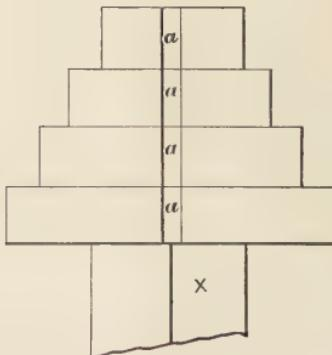
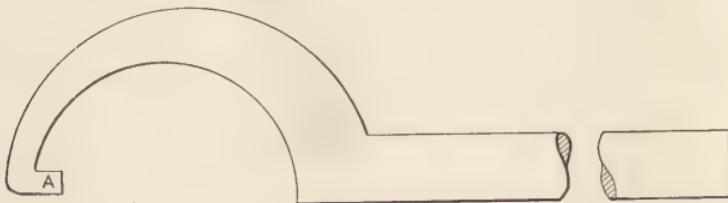

Fig. 28.
Fig. 35
wrench to the required size and shape. This may be most conveniently done by having a wrench block as shown in Fig. 27, which can be made either of cast iron or steel and arranged to fit in the square hole in the anvil or in a large swage block. By having several steps or shoulders the wrench block will answer for all sizes of wrenches used in the average shop. The one in Fig. 27 is in five different sizes, from *A* to *E*, and is one of the handiest tools to be found in a smith shop. The square shank designed to fit the hole in the anvil is at *X* in Fig. 27. In Fig. 28 is a wrench block for a spanner wrench, which will be described shortly.
**Spanner Wrench.**—Fig. 35 shows a spanner wrench, a tool that blacksmiths are sometimes called upon to make in different sizes. It must be made the proper shape to give satisfaction to the user. In some cases the part marked *A*, Fig. 35, is required to be round, and in others oblong. A block for bending this kind of a wrench was shown in Fig. 28. This form or block (same as in Fig. 27) can be set in the anvil or swage block by having a square shank *X*. Have a row of keyways cut along one side at *a*, *a*, etc., and a row of different sized holes drilled on the opposite side *b*, *b*, etc. This forms a handy tool for bending a spanner wrench to the proper size in one heat.